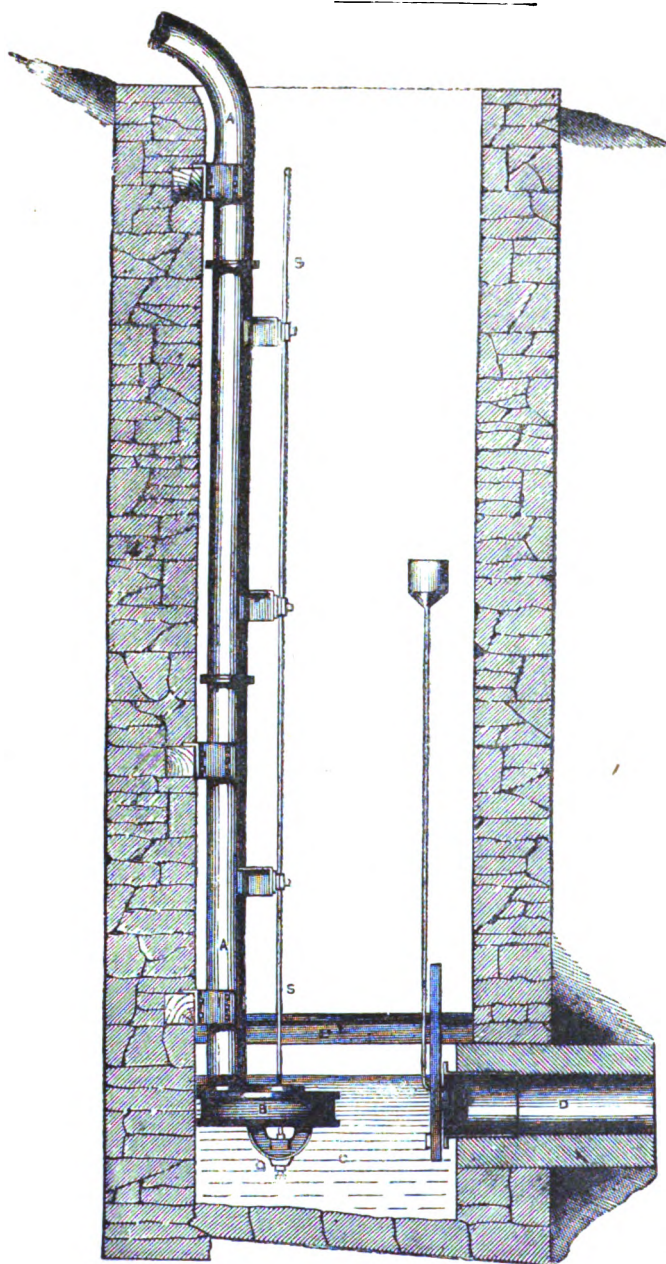

Fig. 3.
Fig. 3, which illustrates the position in which this wheel is sometimes placed, a portion of the fall being obtained by cutting below the level of the mill floor. In this case suction pipes are not required. A A is the supply pipe, B the wheel, S S the driving shaft; a slide is provided for closing the mouth of the conduit (D) at any time when access to the wheel is required, and it prevents the water flowing back to the pit from the river into which the tail-race leads.